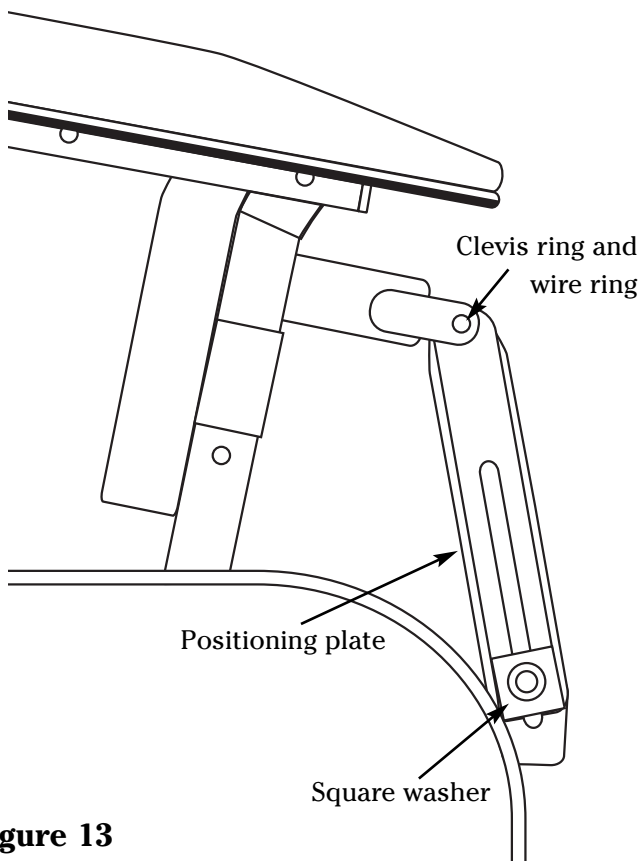

Figure 13
NOTE: The position mechanism is factory set. If the position mechanism does not hold, follow Adjustment instructions for the position mechanism. The plate has 5 position marks for repeatable positions (See fig. 13).
1. Turn the position adjustment handle down to the release position, and remove clevis pin and wire ring from top of assembly (See fig. 13).
2. Slide positioning plate up, and turn square washer clockwise until snug (See fig. 13).